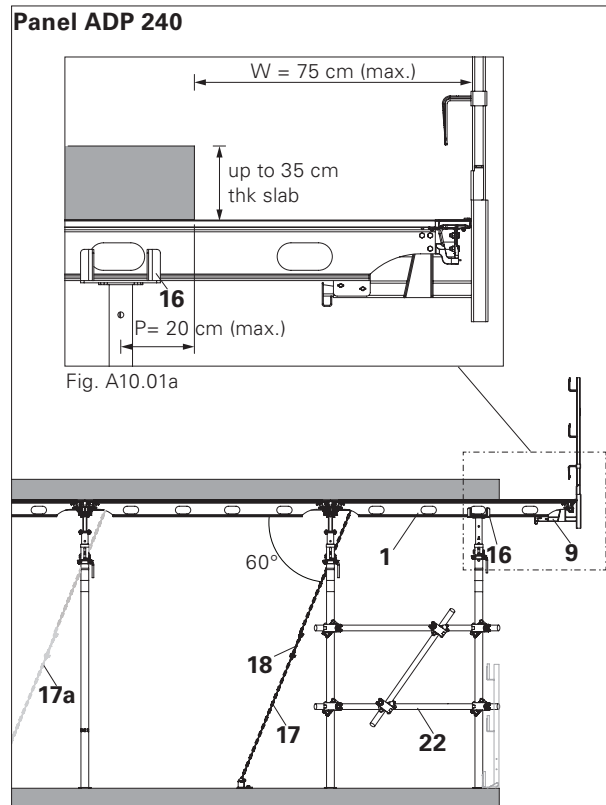
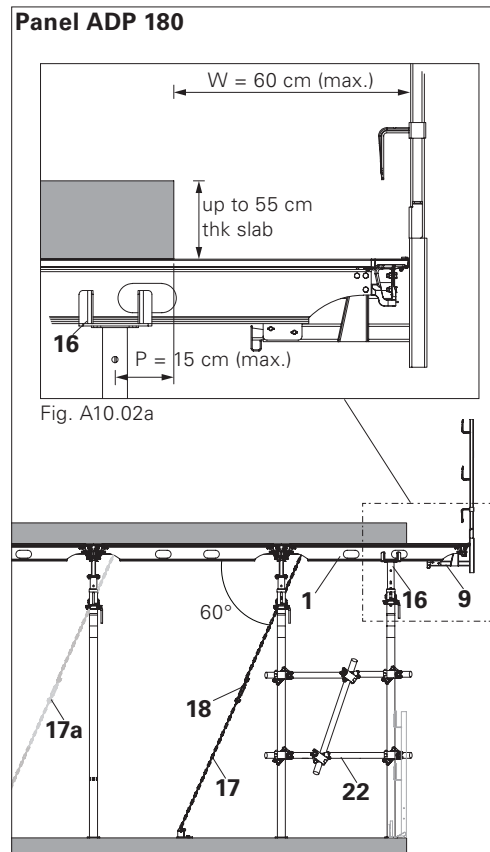

Fig. A10.01
Fig. A10.02
Cantilevers are secured against toppling using anchor chain 3.0 kN (17). Additional chain bracings (17a) must be installed for transfer of horizontal loads due to open slab edges. Project specific planning is to be taken into account for the number of additional chains required. (Fig. A10.01) and (Fig. A10.02)
1. Install the Panel ADP (1) along with Guardrail holder ADG (9). (Fig. A10.01)
2. Attach Crosshead ADC (16) with prop to support the Panel ADP (1).
3. Secure the cantilever using anchor chain 3.0 kN (17). (Fig. A10.01 + Fig. A10.02)
4. Install additional Z-bracings for stability of props at periphery. e.g. bracings using pipes and couplers. (Fig. A10.01 + Fig. A10.02)